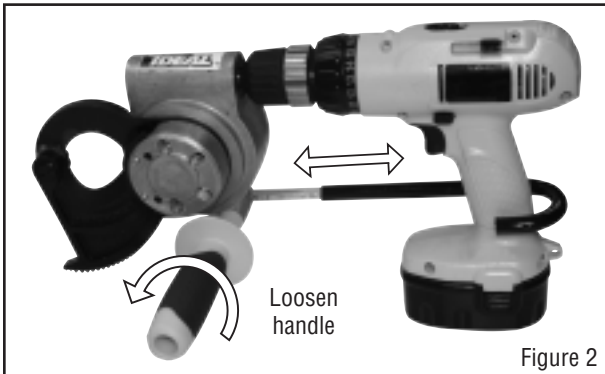

Figure 2
**STEP 2:** Loosen handle so torque arm extends freely (Figure 2).